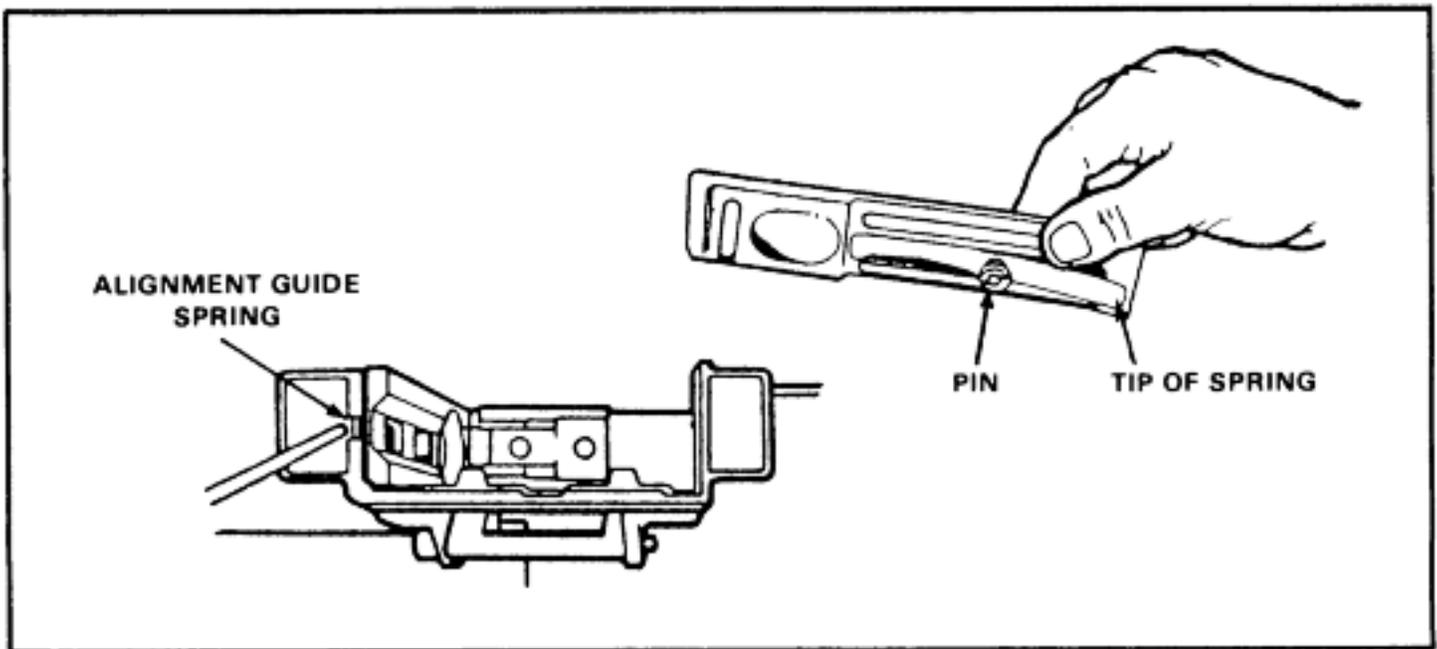

Figure 2-14. Alignment guide.
- (8) Take off the alignment guide:
- (b) Slide the alignment guide out of the receiver, pulling the assembly slightly rearward (Figure 2-14).